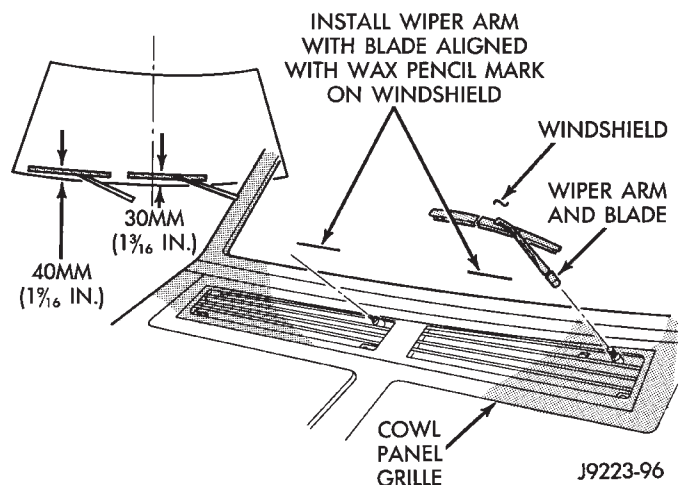

Fig. 25 Wiper Locations On Windshield
- (1) Use a wax pencil to mark the position of the wiper arms (Fig. 25).